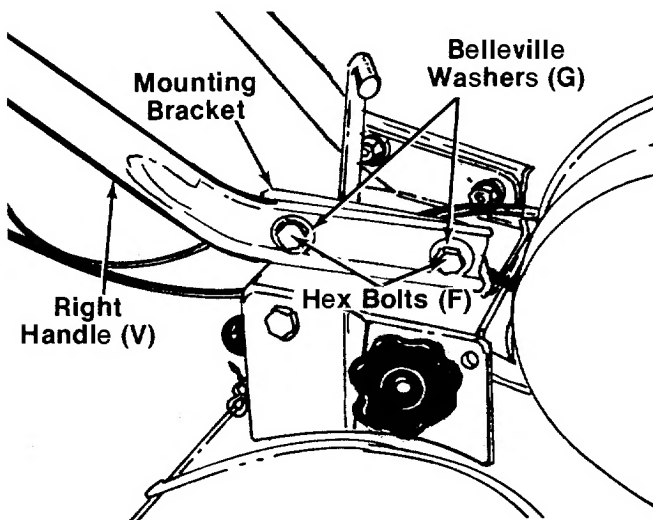

FIGURE 6—Model 405 Shown.
1. Place right handle (V) in position on the right side of the tiller. Insert hex bolts (F) through belleville washers (G), handle and mounting bracket. See figure 6. Secure with hex nuts (I) and lock washers (H).